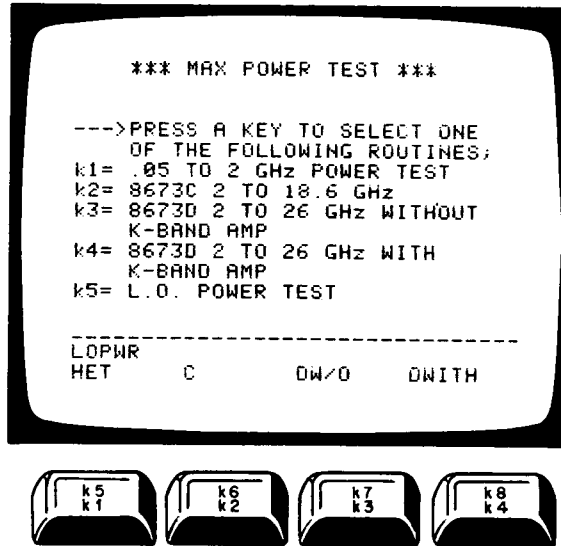

Figure 5-25. Maximum Power Tests Menu
13. Press K1 to display the Max Power Menu, Figure 5-25.